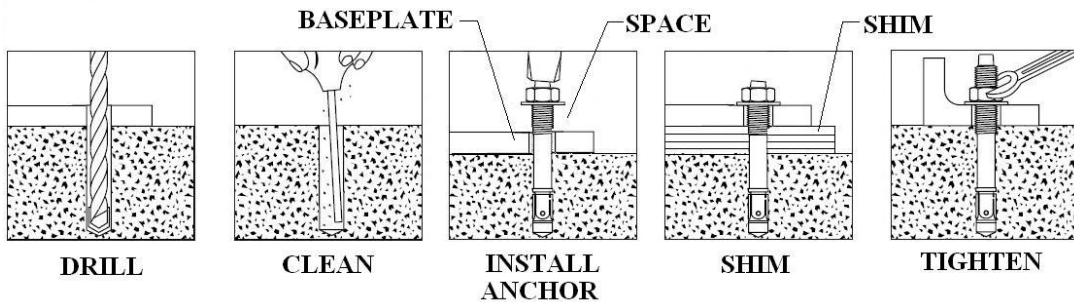

Figure 21 – Anchor Bolts
3. Refer to Bay Layout (**Figure 4**) to ensure that the column is still in the proper position. Using a rotary hammer drill with a 3/4" masonry drill bit and using the tower baseplate as a template, drill holes through the concrete floor on the high side column (In case longer anchors are required, supplied anchors can be hammered through concrete). Make sure that the 3/4" masonry drill is in good condition (**Figure 21**).
4. Carefully clean out drilling dust from the anchor holes. Hammer in the anchor bolts until they make contact with the baseplate (**Figure 21**). Hand tighten all anchor bolts.
2. Refer to Bay Layout (**Figure 4**) to ensure that the column is still in the proper position. Using a rotary hammer drill with a 3/4" masonry drill bit and using the tower baseplate as a template, drill holes through the concrete floor on the low side column (In case longer anchors are required, supplied anchors can be hammered through concrete). Make sure that the 3/4" masonry drill is in good condition (**Figure 21**).
3. Carefully clean out drilling dust from the anchor holes. Hammer in the anchor bolts until they make contact with the baseplate (**Figure 21**). Hand tighten all anchor bolts.
6. Torque all anchor bolts to 150 ft-lbs. (203 Nm), continually checking that the crossmember and column are level as you proceed. If anchor bolts do not tighten to 150 ft-lbs. OR project more than 2¼" above the concrete surface (**Figure 21**), the concrete should be replaced by an appropriate concrete pad. (*Consult Product Manufacturer / Supplier for further details*).